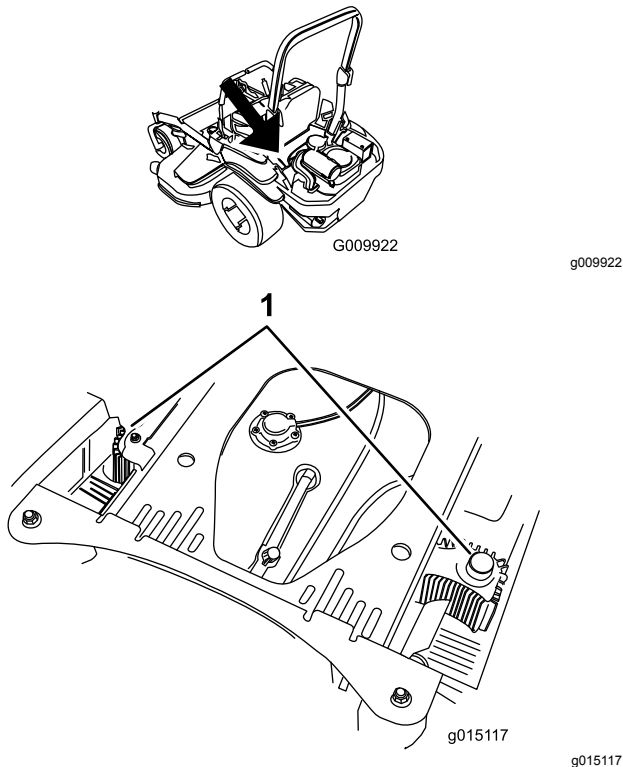

Figure 72
4. Clean the debris and grass from the hydraulic-unit shrouds (Figure 72).